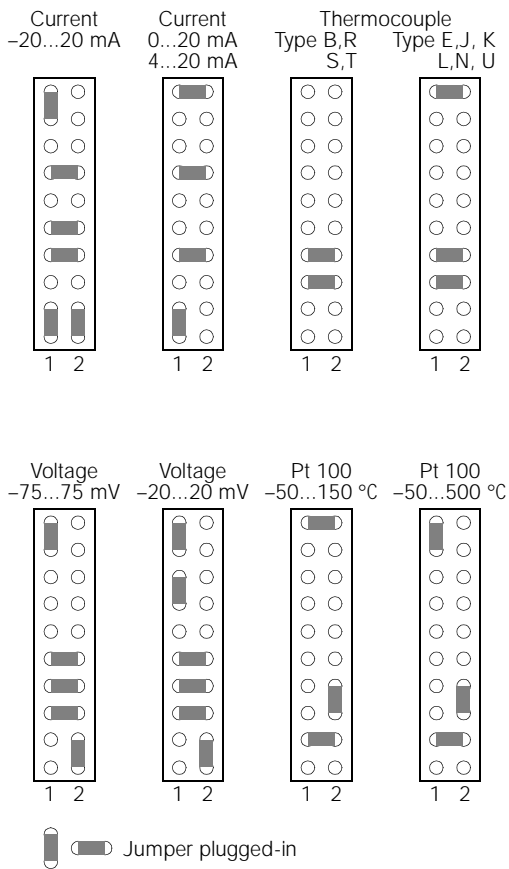

Figure 17 Arrangement of jumpers as a relation of measuring mode and nominal measuring range
3. Arrange the jumpers in line with the desired measuring mode and the desired nominal measuring range (see figure 17).